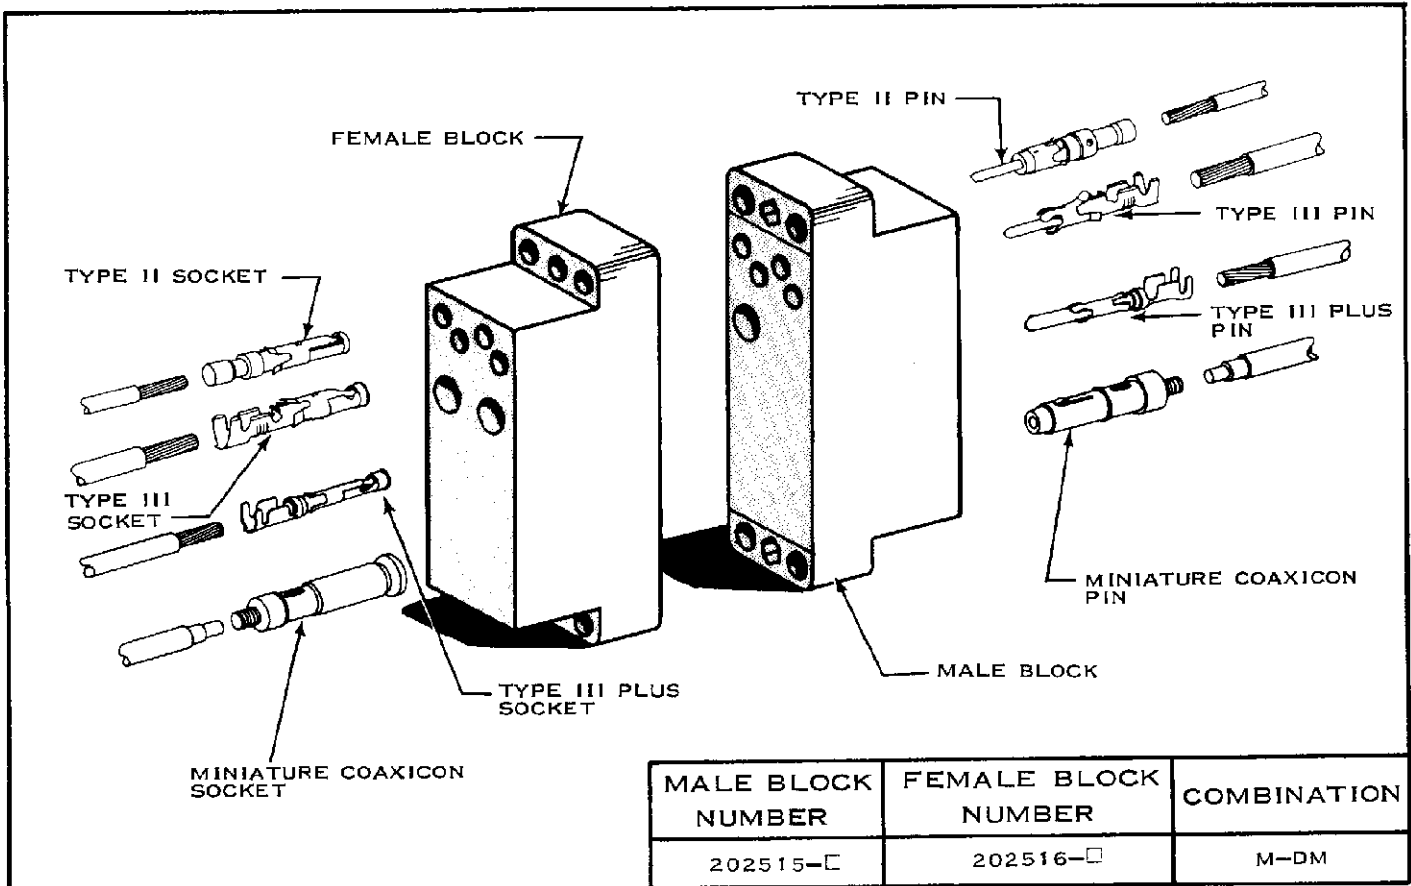

Fig. 1
1. These instructions cover the A-MP 42 Position Series "M" Connectors shown in Figure 1. Read them carefully before assembling the Connector.
- (a) Push Contact all the way into Connector Block. See Figure 1.